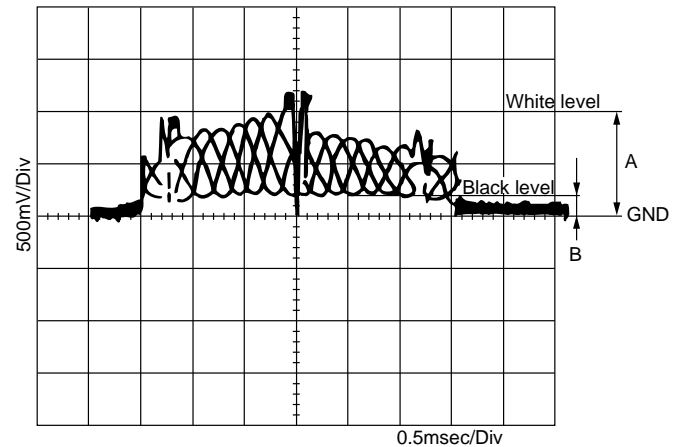
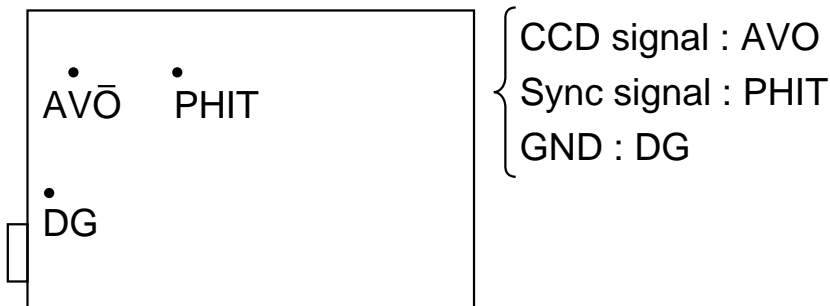

Fig. 2
Fig. 5
- 6) Remove the lock paint of CCD board holding screws. Then loosen one screw at a time and adjust the location of the CCD board so that the CCD output is as shown in Fig. 2. Also ensure that the centre black level trough is delayed 528msec from the trigger sync signal FT (PHIT). See Fig. 5.
- 7) If after adjusting CCD output in step 6) scope reads the same as in Fig. 2 run a test copy. (Focus should be OK)
- 8) Remove the lock paint of lens. Adjust the location of the lens so that the difference between A and B of CCD output should be the largest, then secure the lens on that position. The output signal waveform must be symmetrical. After it has been complete, secure the screws with the lock paint. with this, lens focus adjustment is complete. (Fig. 2)